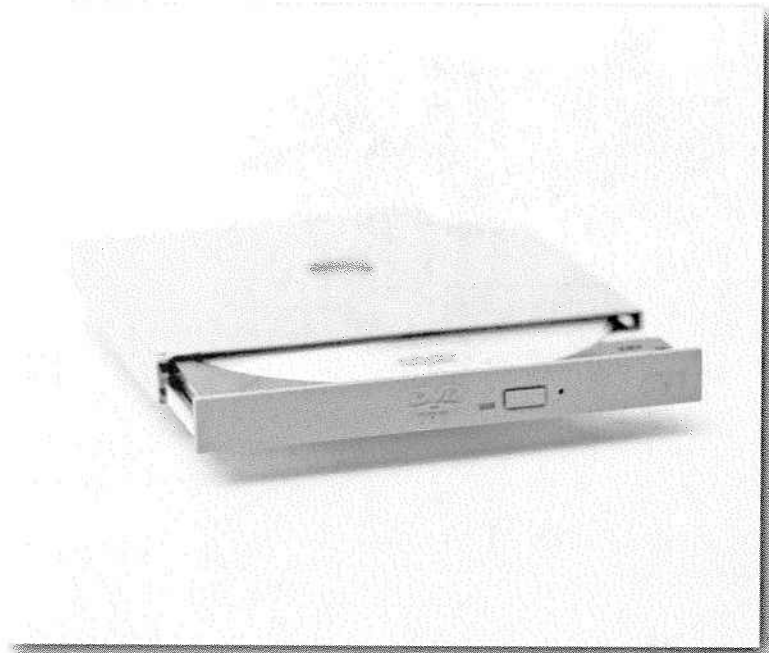

FIGURE 11-4: Slimline CD-ROM drive.
- IDE DVD-ROM/CD-RW combo drive (~\$85, shown in Figure 11-4) with Mini-IDE to 40-pin IDE converter (~\$20).
- IDE laptop slimline DVD-ROM/CD-RW combo drive (~\$85, shown in Figure 11-4) with Mini-IDE to 40-pin IDE converter (~\$20).